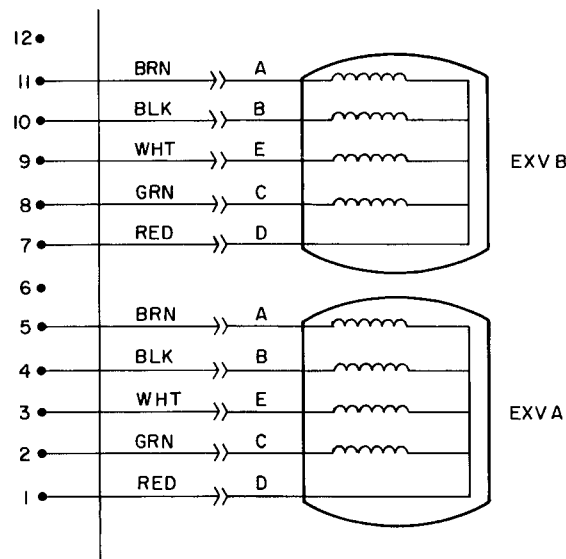

Fig. 9 — EXV Cable Connections to EXV Driver Module, DSIO (EXV)
Step 1 — Check EXV Driver Outputs — Check EXV output signals at appropriate terminals on EXV driver module (see Fig. 9) as follows:
Step 2 — Check EXV Wiring — Check wiring to electronic expansion valves from terminal strip on EXV driver. See Fig. 9.
Step 3 — Check Resistance of EXV Motor Windings — Remove plug at J4 terminal strip and check resistance between common lead (red wire, terminal D) and remaining leads, A, B, C and E (see Fig. 9). Resistance should be 25 ohms $\pm$ 2 ohms.